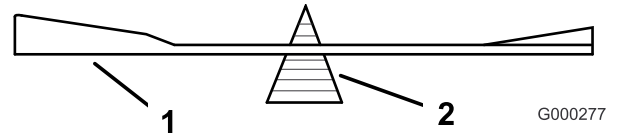
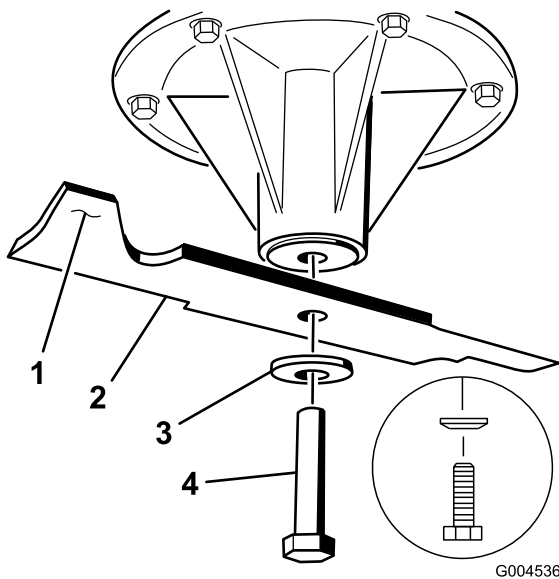

Figure 100
Figure 101
2. Check the balance of the blade by putting it on a blade balancer (Figure 100). If the blade stays in a horizontal position, the blade is balanced and can be used. If the blade is not balanced, file some metal off the end of the sail area only (Figure 101). Repeat this procedure until the blade is balanced.
1. Install the left and center blades, curved washers, and blade bolts to the spindle shafts (Figure 101 and Figure 102).
Note: Ensure the curved-washer cone is installed towards the bolt head (Figure 101).
2. Install the right blade, curved washer, and blade bolt (left-hand threaded bolt) to the spindle shaft (Figure 101 and Figure 102).